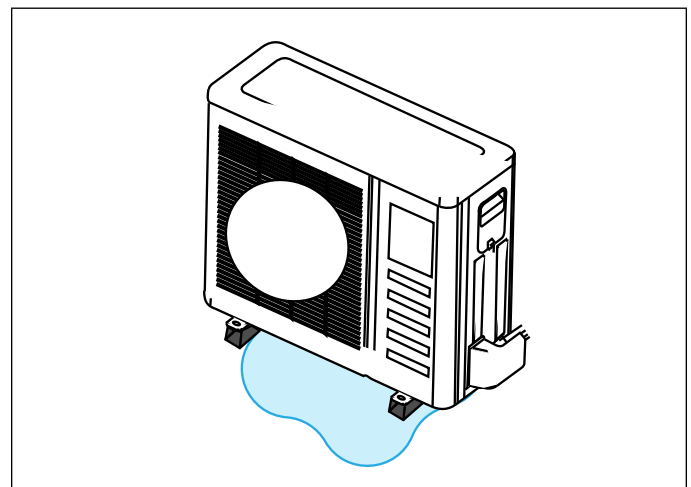

Figure 14. Avoid Defrost Water Ice Hazard
- Carefully consider how to manage defrost water disposal to prevent ice from blocking walkways or creating a safety hazard near the outdoor unit as illustrated in “Figure 14. Avoid Defrost Water Ice Hazard”
- When prevailing wind is into the discharge side, then position the wind barrier a minimum 79 inches (2007 mm) from the front of the unit as illustrated in Figure 14. Wind Barrier”